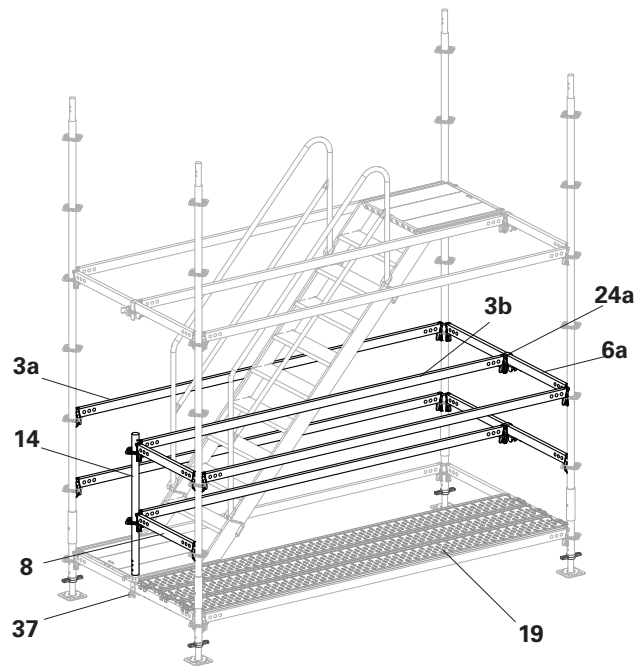

Fig. A10.05
1. Re-position Steel Decks UDG-2 (19) in the position shown.
2. Remove the Horizontal Ledgers UH-2 300 (3a/3b), Ledgers UH-2 150 (6a), Ledger UH-2 75 (8), Ledger Brackets UHA Half (24a) and Top Standard UVH-2 100 (14). (Fig. A10.05)